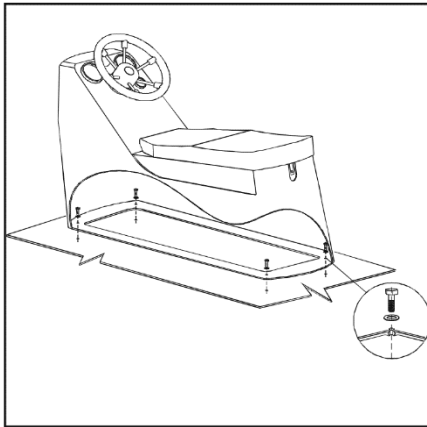

Fig. 8. Installation of steering console CS-01W/CS-03.
- Fix steering console to the deck by means of bolts M8*25 and toothed lock washer (fig. 8).